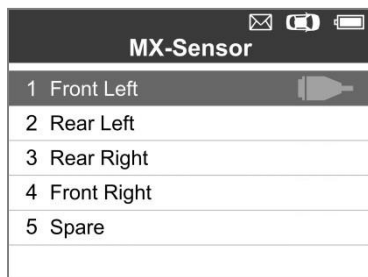
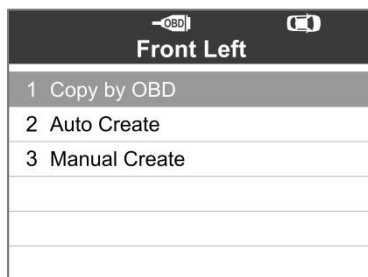

Figure 4-18 Sample OBD Mark Screen
Figure 4-19 Sample Copy by OBD Screen
1. Follow the steps in **Auto Create** to select **MX-Sensor** to enter the **Programming** function. The OBD mark will appear on the right side of the screen (Figure 4-18). After selecting the specific wheel and pressing the **Y** button, the **Copy by OBD** option is available on the function menu (Figure 4-19).
1. Follow the steps in **Auto Create** to select **MX-Sensor** to enter the **Programming** function. The OBD mark will appear on the right side of the screen (*Figure 4-18*).